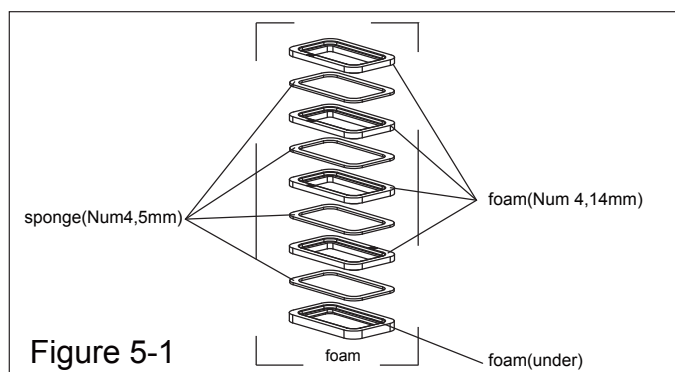
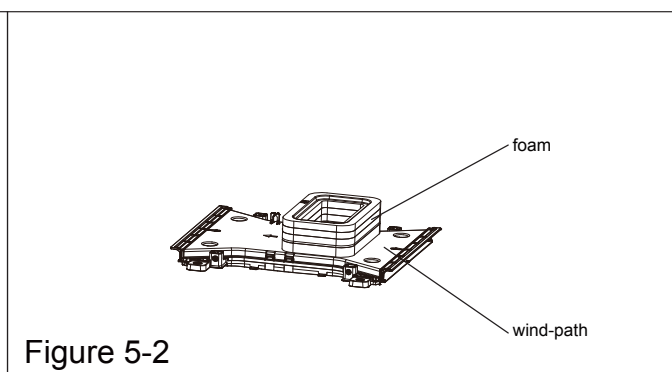

Figure 5-1
Figure 5-2
5. Before installing the air duct assembly of the indoor unit of recreational vehicle air conditioner, assemble the foam assembly according to the thickness of the vehicle's top. After simulated installation, use an appropriate amount of sponge and foam assembly. Stick the sponge and foam assembly with double faced adhesive tape (prepared by user) (See Figure 5-1, Figure 5-2).